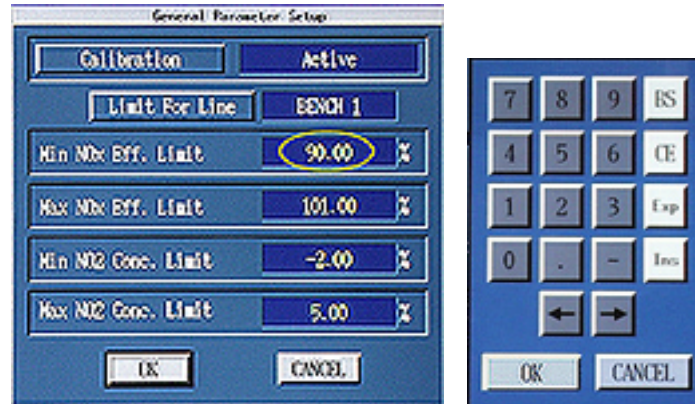

Figure 11
| Figure 11 Min NOx Eff Limit .....            | 9  |
- 117 Verify that the yellow field for “Min NOx Eff. Limit” displays “90.00.” If it doesn’t, click in the field. See the circle in Figure 11. Use the keypad to enter “90.00.”